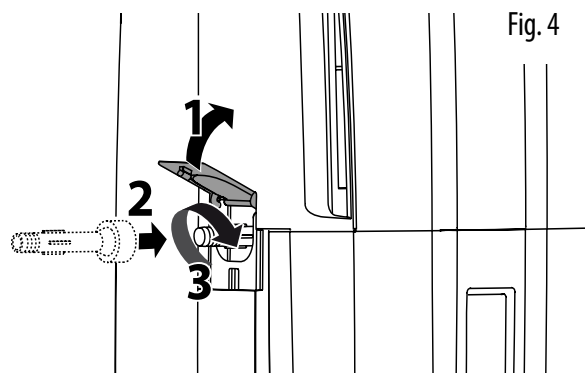

Fig. 4
- Open the door on the side of the appliance and screw the pipe onto the fitting, as shown in figure 4.